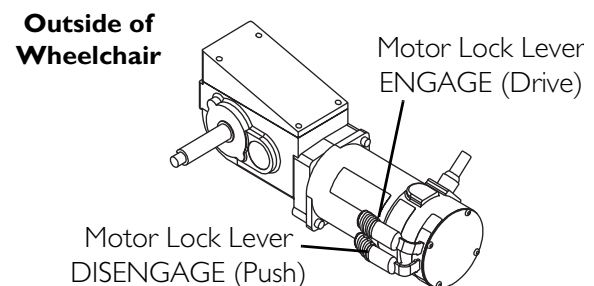

FIGURE 13.1 Disengaging/Engaging Motor Lock Levers - Standard and Heavy Duty 4 Pole Motors
NOTE: For this procedure, refer to FIGURE 13.1.
1. Perform one of the following (FIGURE 13.1):